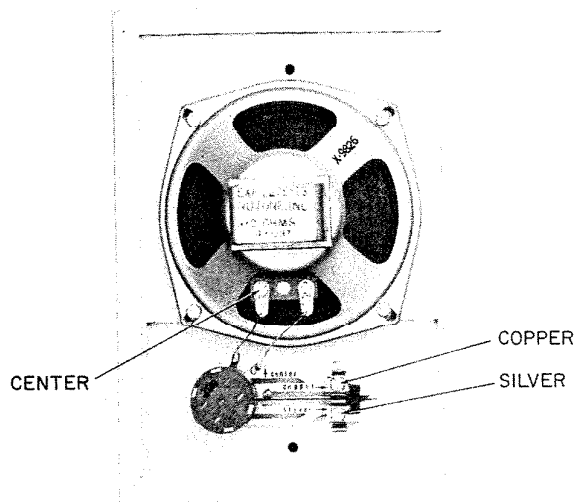

Fig. 1. Rear view of Model 2027 remote speaker station.
1. Inside remote speaker models 2025 and 2026 have been superseded by Model 2027 shown in Fig. 1.
Connect previously installed three-conductor wire to the screw terminals on the rear of the remote (Fig. 1) as follows: